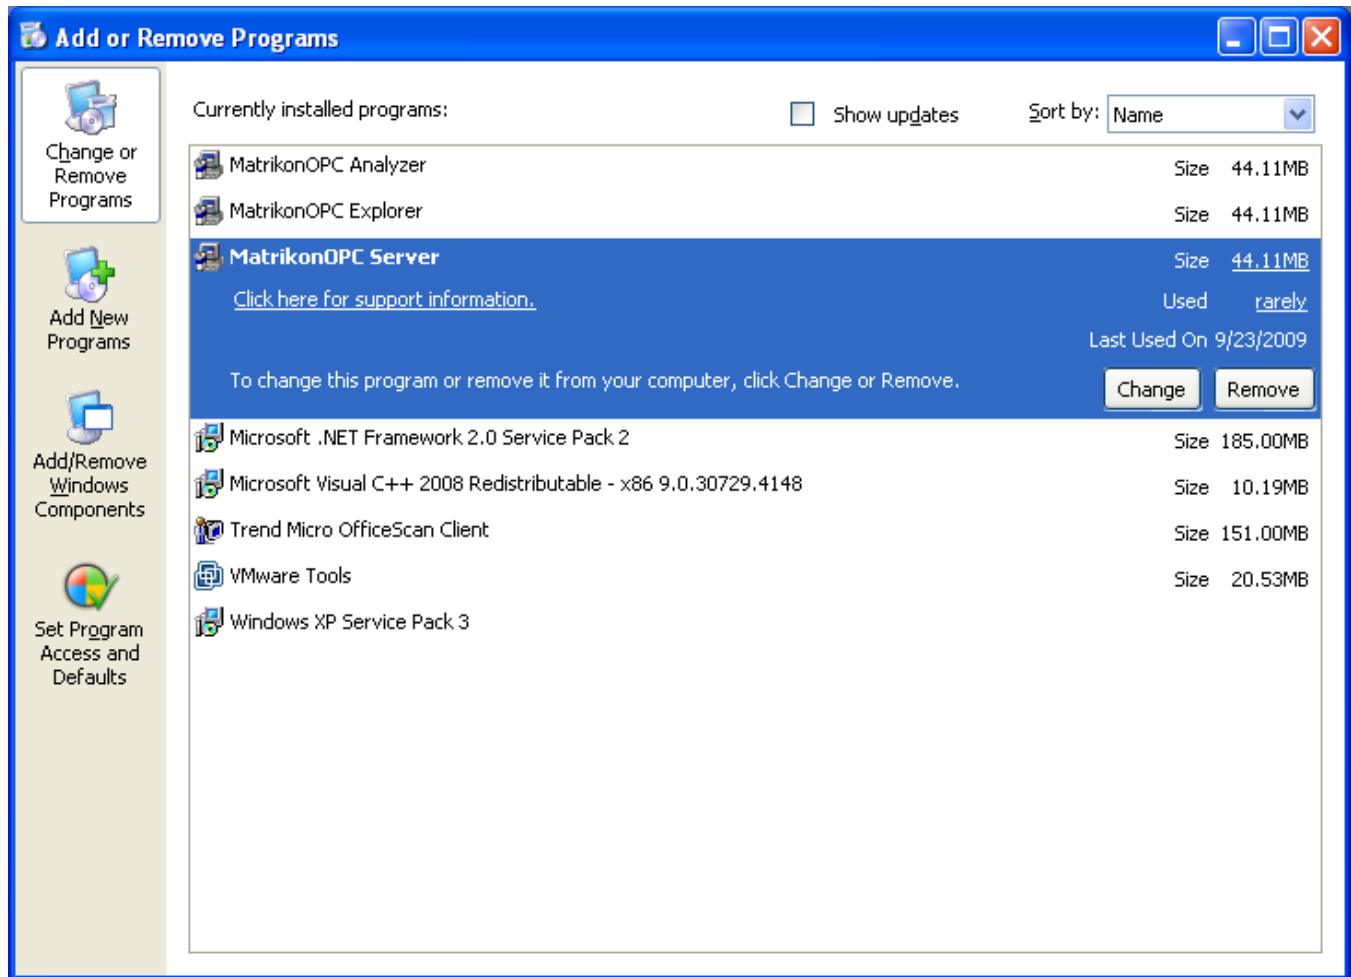

Figure 90 – Add or Remove Programs
3. The **Add or Remove Programs** window (Figure 90) is displayed.